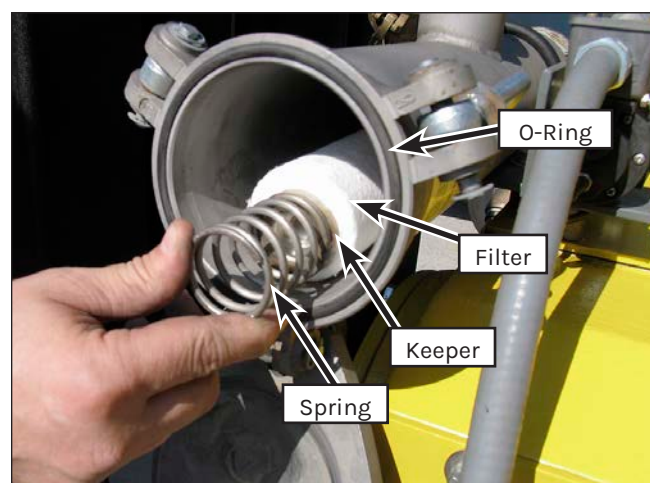

Figure 57: Cartridge Removal.
2. Slowly open the cover and capture the spring (Figure 57) and spring keeper.